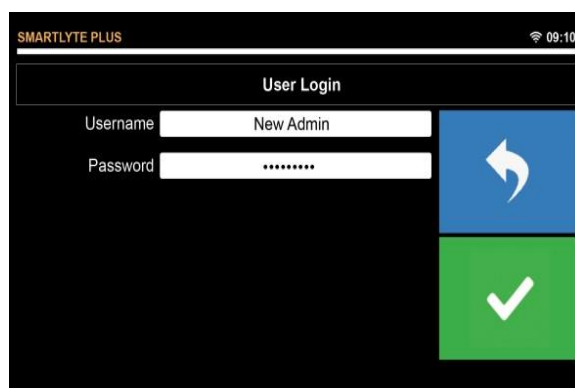

Figure 1-39 First time Login screen
- After User Added Successfully, press  then press [USER LIST] on User Settings Menu to verify addition of New Admin (Figure1-39)